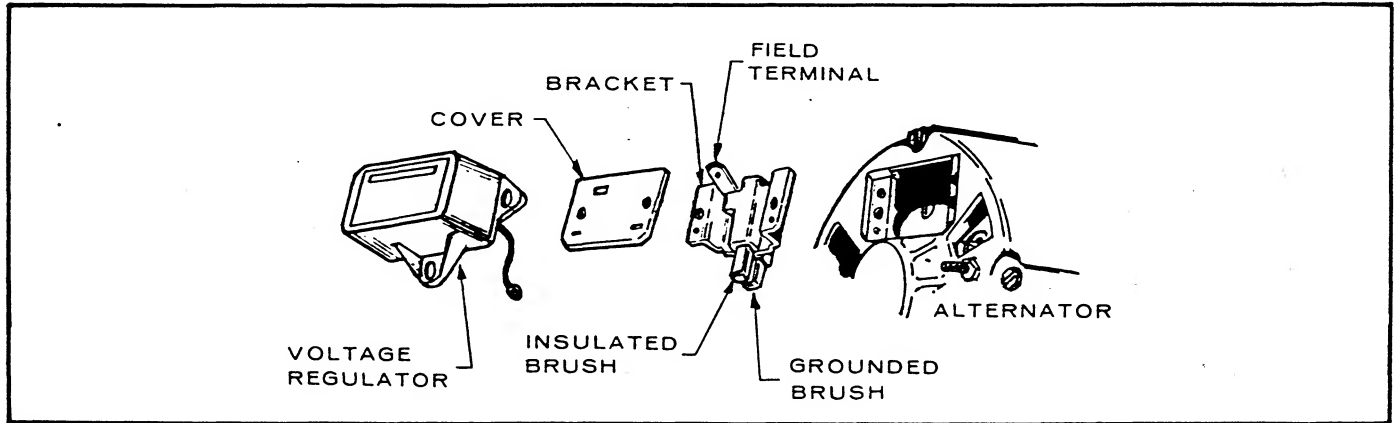

FIGURE 29. OPTIONAL BATTERY CHARGING, EXTERNAL ALTERNATOR
**Brush Assembly Removal:** Remove the three screws which fasten the voltage regulator to the alternator. See Figure 29. Disconnect the regulator leads and remove the regulator.